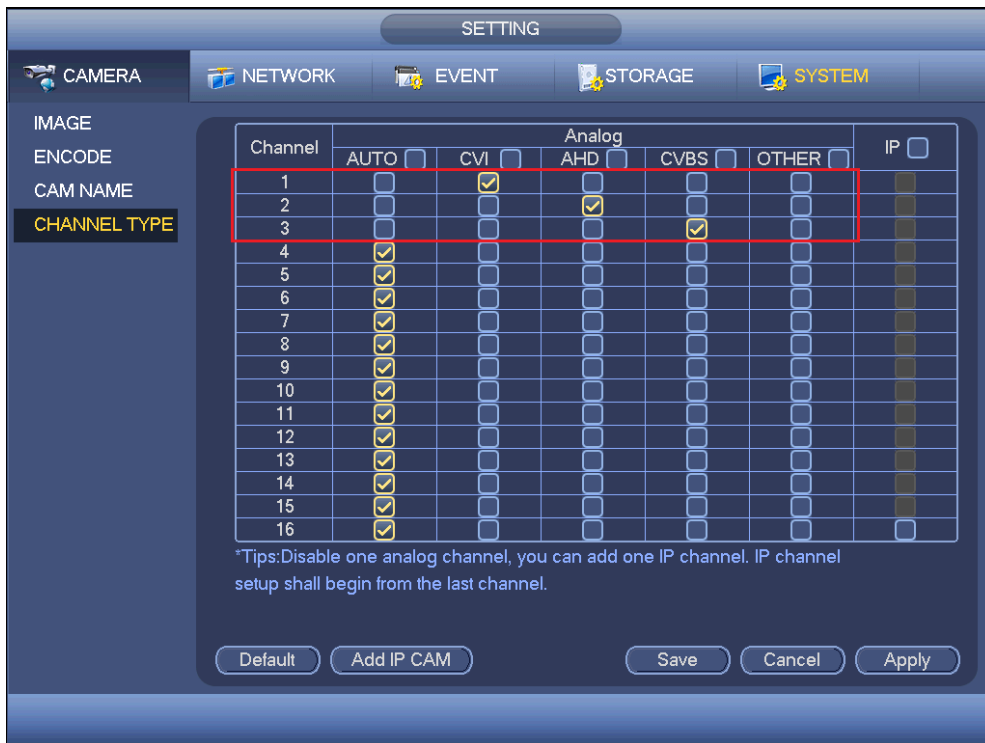

Figure 4-111
- If the auto recognition error occurred, XVR series product supports manual setup too. The manual setup featuring high recognition speed and usually there is no error. For example, in Figure 4-111, you can set channel 1 to connect to CVI camera, channel 2 to connect to AHD camera, channel 3 to connect to CVBS camera.